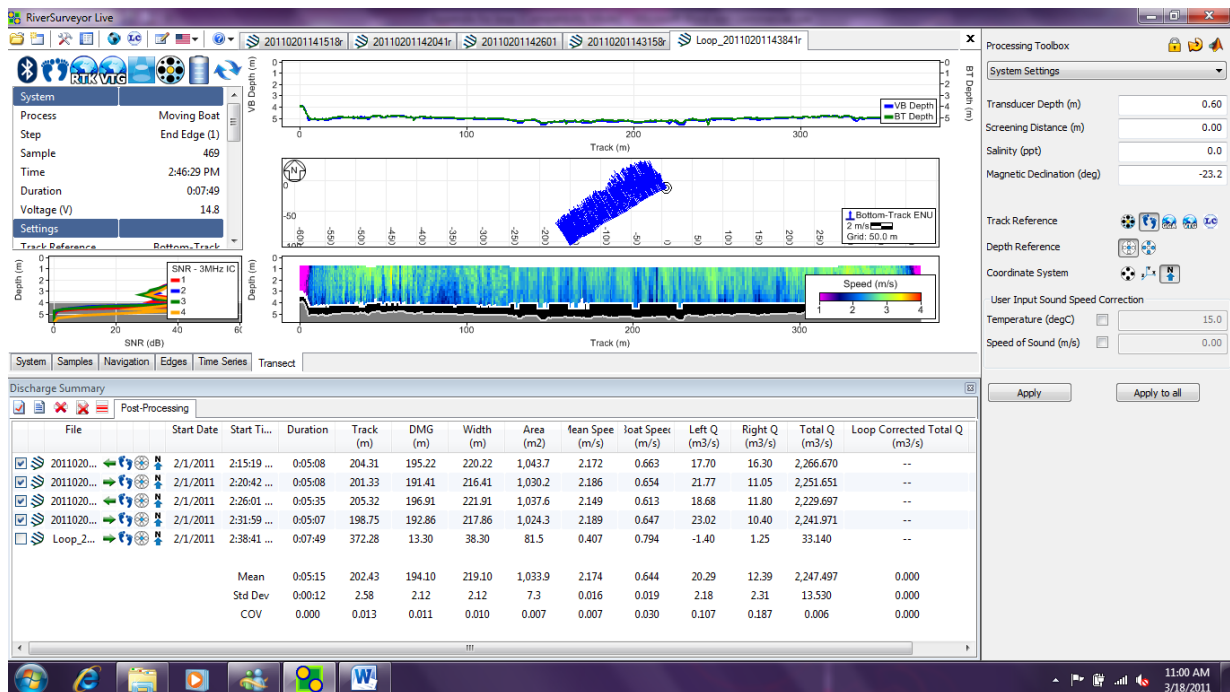

Figure 184. Loop Method Processing
- The moving bed speed is now calculated. Prior to applying the correction, you must first open the Processing Toolbox by clicking the Tools icon (**Ctrl+T**) on the tool bar located at the top of the screen. It is also helpful to open the Discharge Summary (**Ctrl+S**) by clicking the summary icon located on the toolbar. The screen should appear as shown in Figure 184.